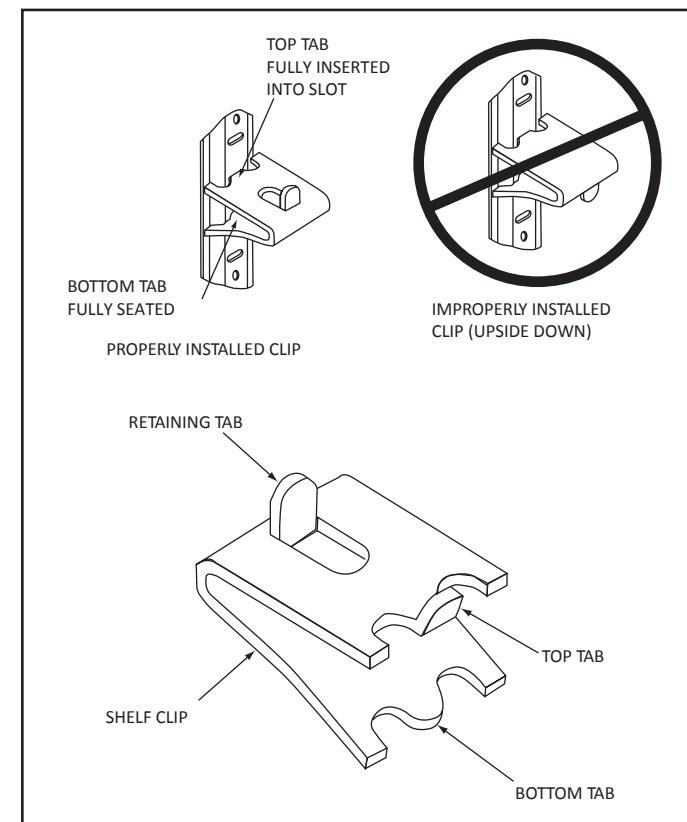

Figure 1. Shelf clip installation.
2. Insert the top tab of the shelf clip into the desired hole of the pilaster. The retaining tab should be facing upward, as shown in Figure 1.
7. Before loading the shelf, ensure that the shelf is resting on each of the four clips and that the clips are installed as shown in Figures 1 and 2.